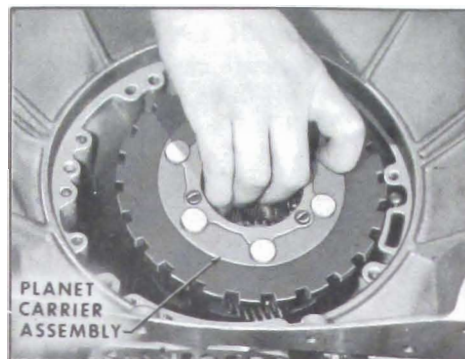

Figure 5-145
1. Remove planet carrier assembly from case, using care not to damage case bushing. See Figure 5-145.